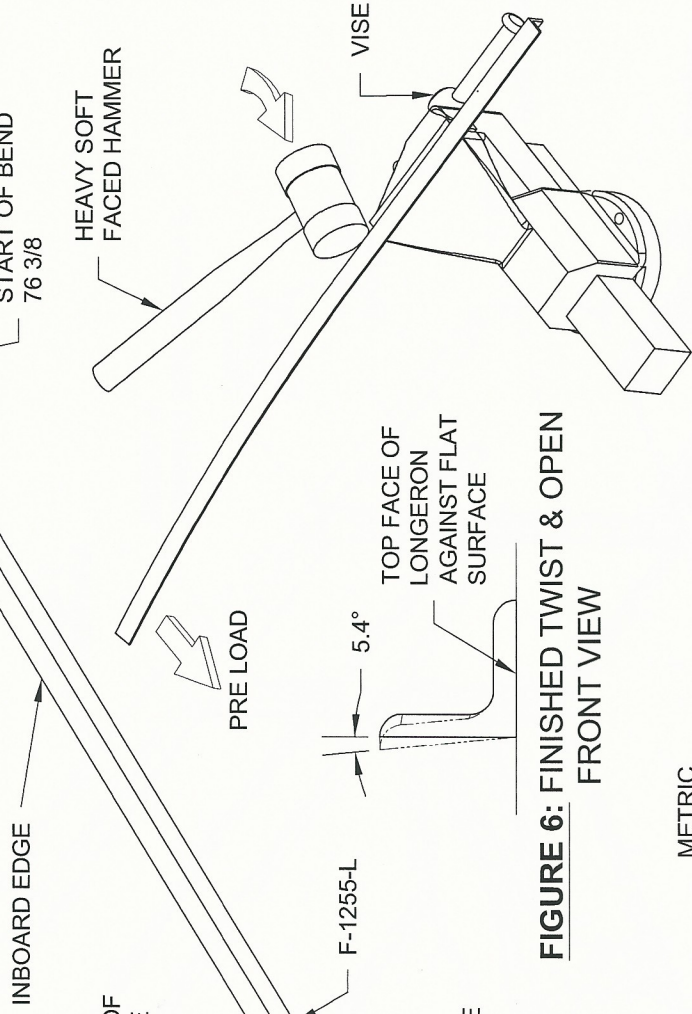
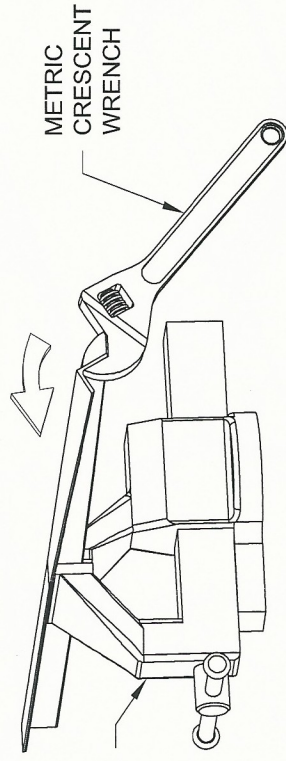

FIGURE 6: FINISHED TWIST & OPEN FRONT VIEW
FIGURE 3: LONGERON TWISTING
Step 3: Open the angle of the longeron as shown in Figure 4 from the start of the longeron to the end of twist & open line as shown in Figure 1. Clamp the longeron in a padded vise at the end of twist & open line as shown in Figure 1. Use a crescent wrench as shown in Figure 3 to twist the longeron inboard as shown and per the dimensions in Figure 1. When finished the top faces of the longeron both fore and aft of the end of twist & open should lay flat against a table. See Figure 6.